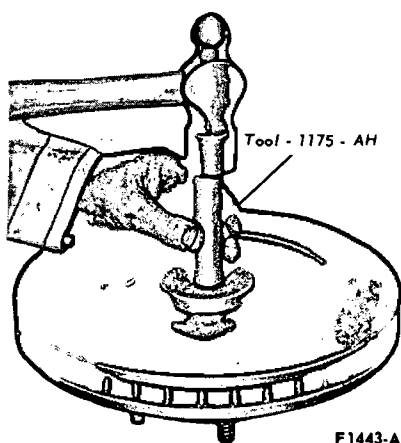

FIG. 8—Installing Grease Retainer—Disc
14. Place the inner bearing cone and roller assembly in the inner cup. Apply a light film of grease to the lips of the grease retainer and install the new grease retainer with the tool shown in Fig. 8. Be sure the retainer is properly seated.